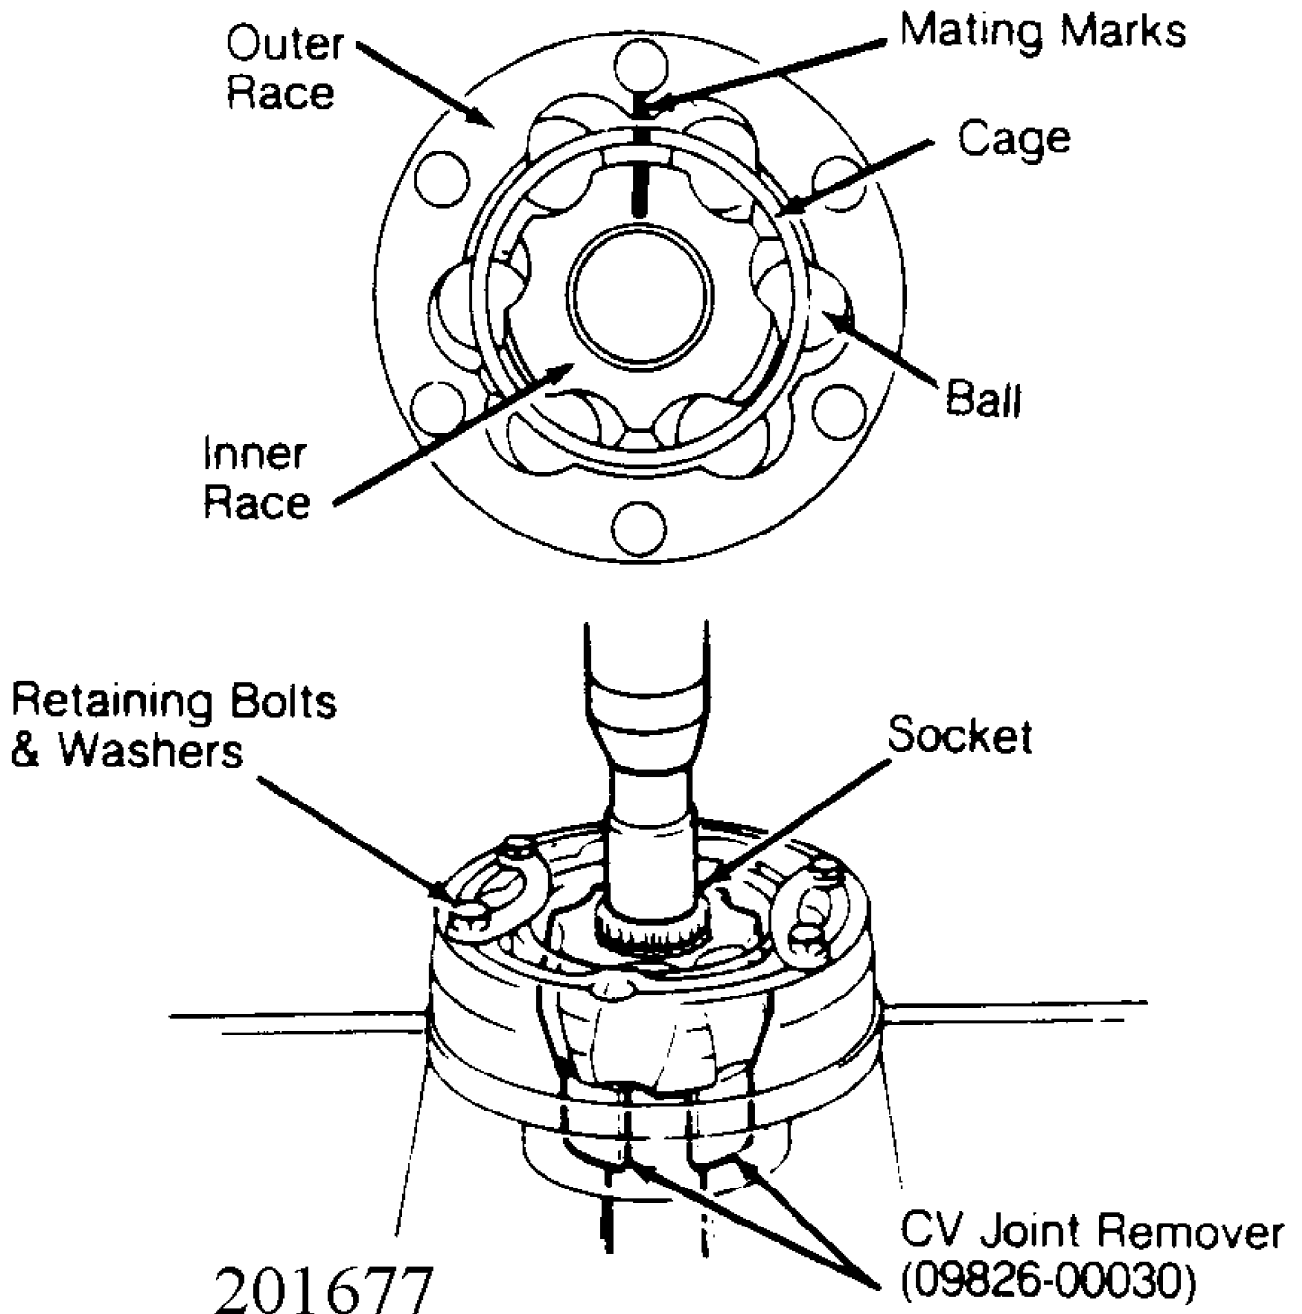

Fig. 13: Pressing Inboard CV Joint From Axle Shaft
- 3) Push steering knuckle outward and separate drive axle shaft from side gear shafts. DO NOT compress the inboard CV boot or CV joint will come apart. The drive shaft retaining bolts and washers may be used to keep CV joint together. See Fig. 13. Remove the joint end cover gasket from the drive axle shaft.
2) Remove the snap ring from the inboard side of axle shaft. Using a socket, press and CV Joint Remover (09726-00030), remove the inboard joint from the drive shaft. See Fig. 13.